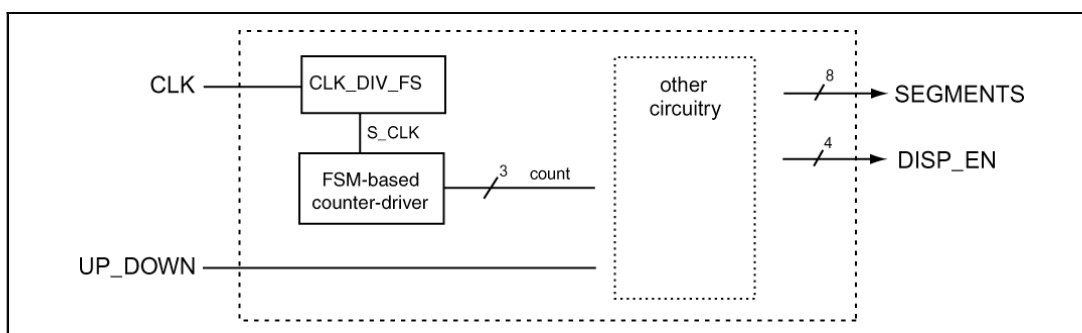

Figure 1: Partial block diagram for the up/down counter.
- The box labeled "other circuitry" in Figure 1 has two inputs: UP_DOWN and the output of the counter driver. The SEGMENTS and DISP_EN are used to drive on 7-segment display on the Nexys board (non-used displays should be turned off).